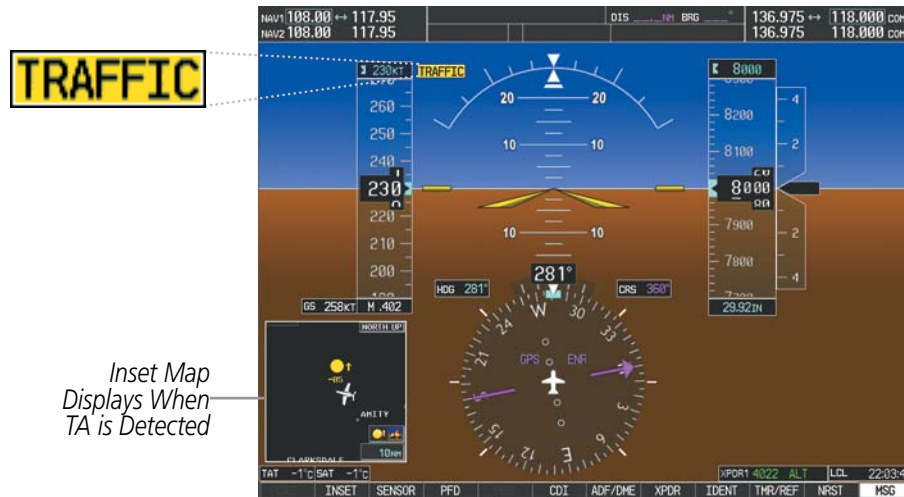

Figure 6-115 Traffic Annunciation (PFD)
- A ‘TRAFFIC’ Annunciation appears at the top right of the airspeed on the PFD, flashes for five seconds, and remains displayed until no TAs are detected in the area (Figure 6-115).